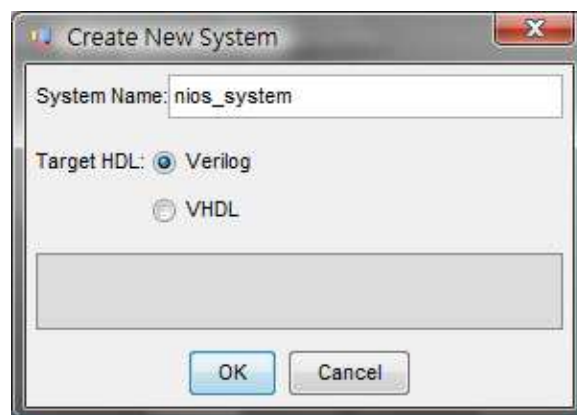
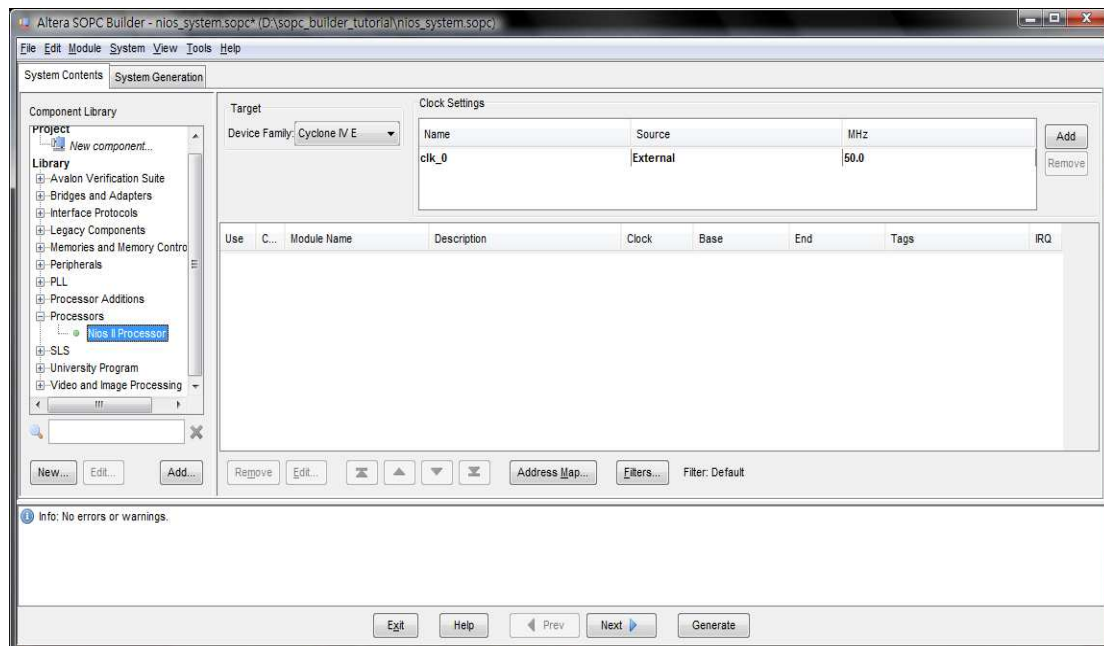
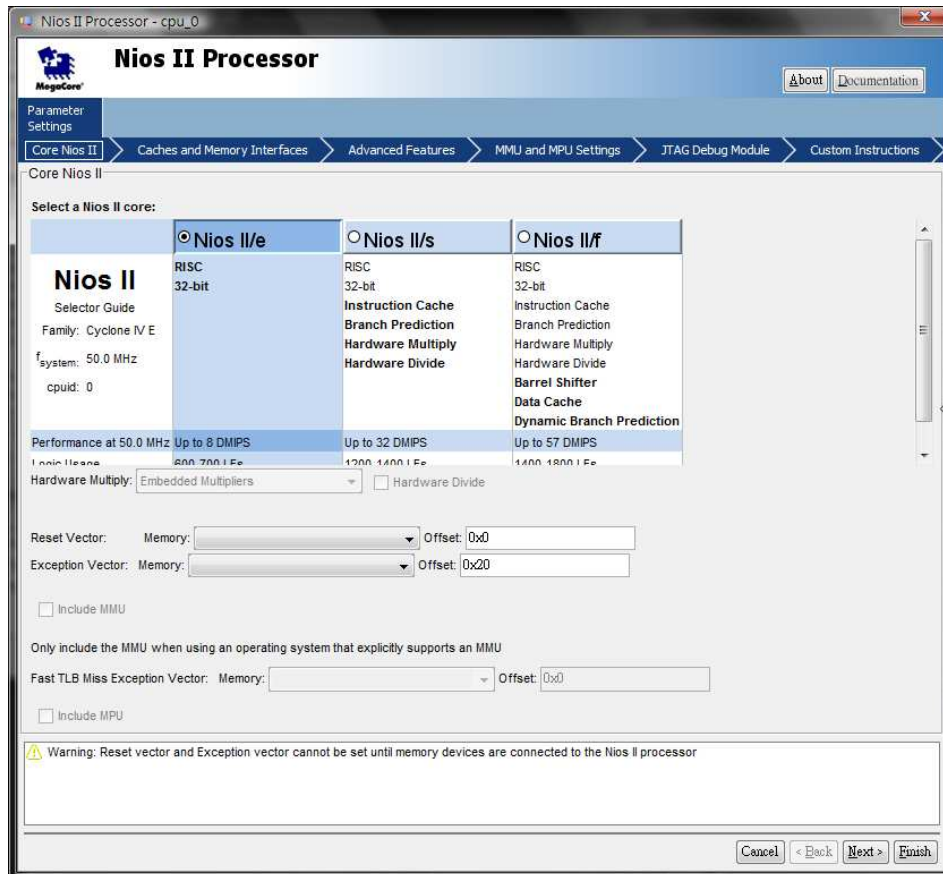
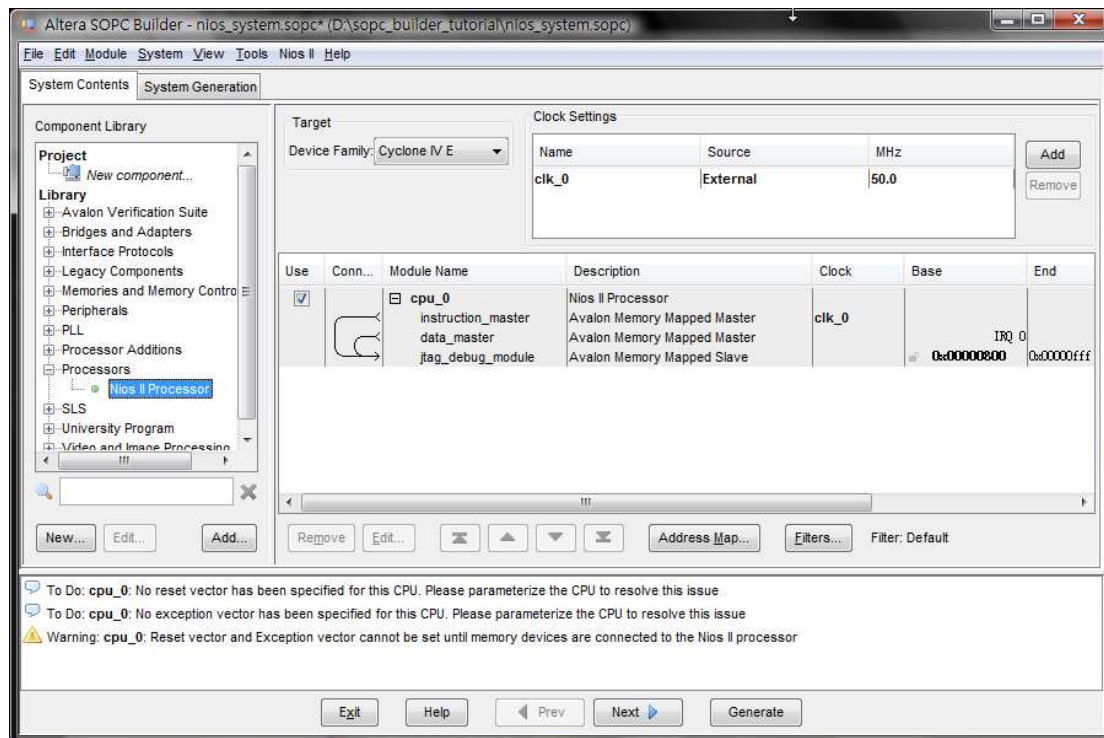

Figure 4.Create a new Nios II system.
Figure 5. The System Contents tab window.
Figure 6. Create a Nios II processor.
Figure 7. The defined processor.
2. Select **Tools > SOPC Builder**, which leads to the pop-up box in Figure 4. Enter **nios\_system** as the system name; this will be the name of the system that the SOPC Builder will generate. Choose Verilog as the target HDL, in which the system module will be specified. Click OK to reach the window in Figure 5.
3. Figure 5 displays the System Contents tab of the SOPC Builder, which is used to add components to the system and configure the selected components to meet the design requirements. The available components are listed on the left side of the window. Before choosing our components, examine the area in the figure labeled Target. Check the setting for the Device Family and ensure that Cyclone IV E is selected.
4. The Nios II processor runs under the control of a clock. For this tutorial we will make use of the 50-MHz clock that is provided on the DE2-115 board. As shown in Figure 5, it is possible to specify the names and frequency of clock signals in the SOPC Builder display.
- On the left side of the window in Figure 5 select **Processors > Nios II Processor** and click Add, which leads to the window in Figure 6.
- Choose **Nios II/e** which is the simplest version of the processor. Click **Finish** to return to the window in Figure 5, which now shows the Nios II processor specified as indicated in Figure 7. There may be some warnings or error messages displayed in the SOPC Builder Messages window (at the bottom of the screen), because some parameters have not yet been specified. Ignore these messages as we will provide the necessary data later.